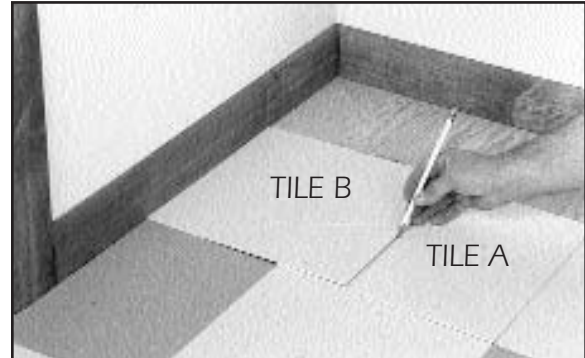

Fig. 7. Fitting to straight walls.
2. Lay another tile, hereafter called Tile B, tight against the wall and directly over Tile A, (Figure 7).